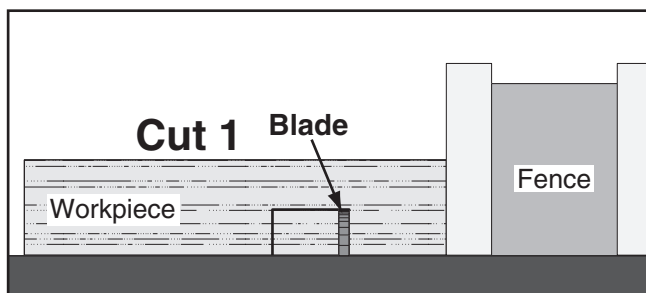

Figure 60. First cut for a single-blade dado.
5. Align the blade to cut one of the dado sides, as shown in **Figure 60**.